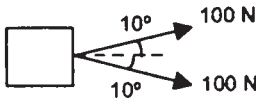

Figure 2.37 Problem 11
- 11 An object is being pulled along the floor by two people, as illustrated in Figure 2.37. What will be the resultant force acting on the object?